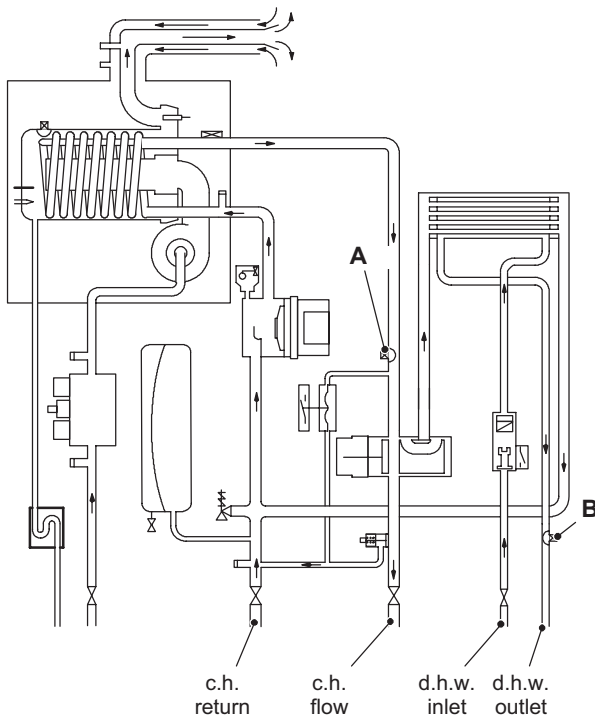
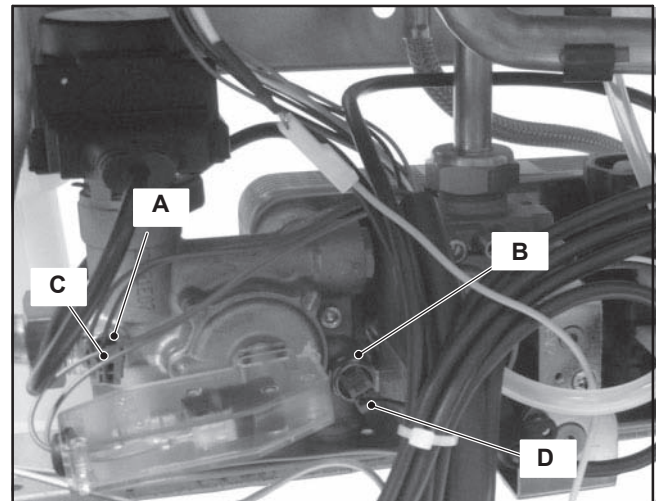

Figure 15.2
Figure 15.3
On the boiler there are two Temperature probes. One on the output of the primary heat exchanger (c.h. Temperature probe) A in Figure 15.2 and Figure 15.3; one on the output of the d.h.w. heat exchanger (d.h.w. Temperature probe) B in Figure 15.2.
- 3 Remove the electric connector C and unscrew the c.h. temperature probe A - Figure 15.3.
- 3 Remove the electric connector D and unscrew the d.h.w. temperature probe B - Figure 15.3.